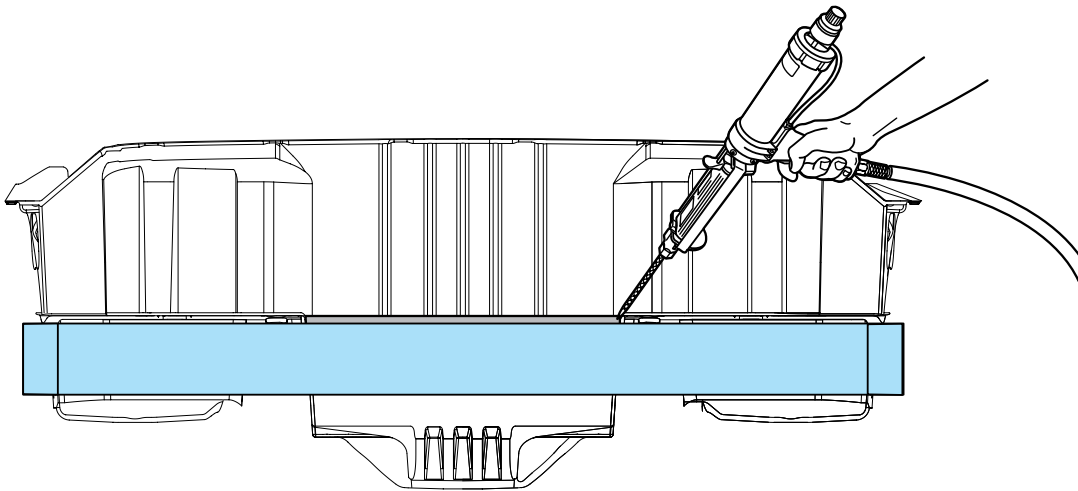

Fig. 3.76 — Bond Rear Compartment Panel to Top Side at Impact Bar
- 7 Apply 50mm (2 inch) wide tape over the 'windows' cut in the rear compartment panel, from outside the vehicle. Apply adhesive to the inside of the tape backer, and install the previously cut-out pieces in their original locations (Fig. 3.76). (Refer to SMC repair procedures.)
- 11 Apply a bead of urethane adhesive to bond the impact bar to the rear compartment as shown in Fig. 3.76. This is a structural bond, and care must be used to ensure that the adhesive fills the gap adequately.